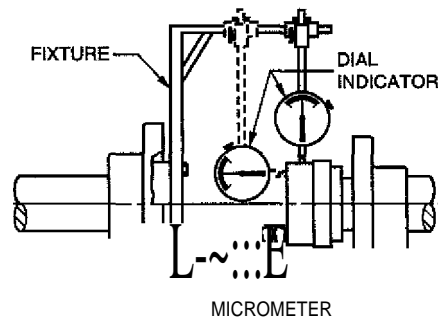

FIGURE 3 - TESTING ALIGNMENT, DIAL INDICATOR
- (c) The preferred test for parallel and angular alignment may be made with a dial indicator mounted as shown in Figure 3. Proceed as follows:
- (1) Scribe the index lines on the coupling halves (as shown) or mark where the indicator point rests. (2) Set indicator dial to zero.
- (3) Slowly turn *BOTH* coupling halves so that index lines match, or indicator point is always on the mark.
- (4) Observe dial reading to determine whether pump or driver needs adjustment.
- (5) Acceptable parallel and angular alignment occurs when total indicator reading (complete turn) does not exceed limits specified by the coupling manufacturer. Refer to pages 14-19.